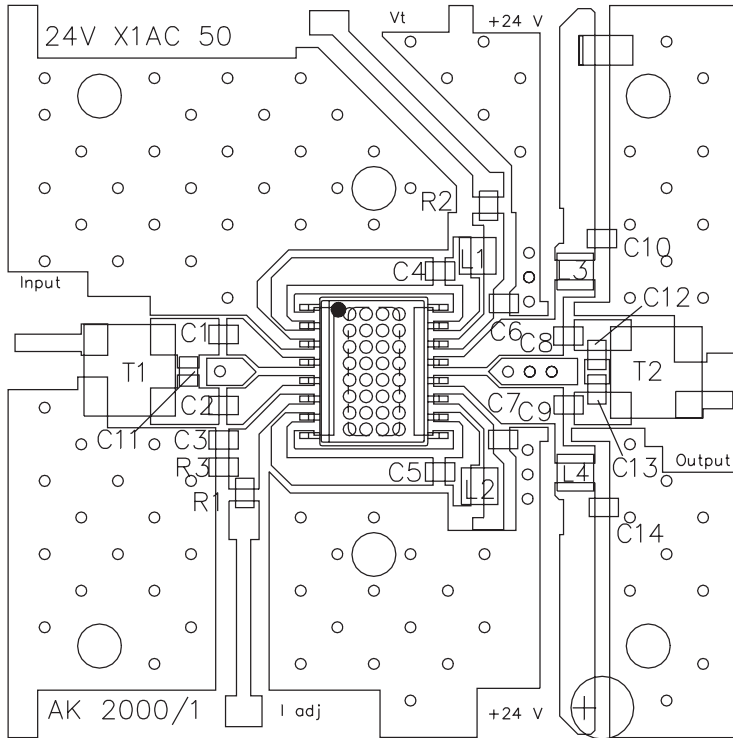

Figure 13: Evaluation Board Layout
(1) Measured with baluns on the input and output of the device.
(2) Parts measured with 77 channels, +56 dBmV power, 13.5 dB tilt at 870 MHz.
(3) Parts measured with 110 channels, +52 dBmV power, 13.5 dB tilt at 870 MHz.
4. All specifications as measured on Evaluation Board (see Figures 13 & 14).